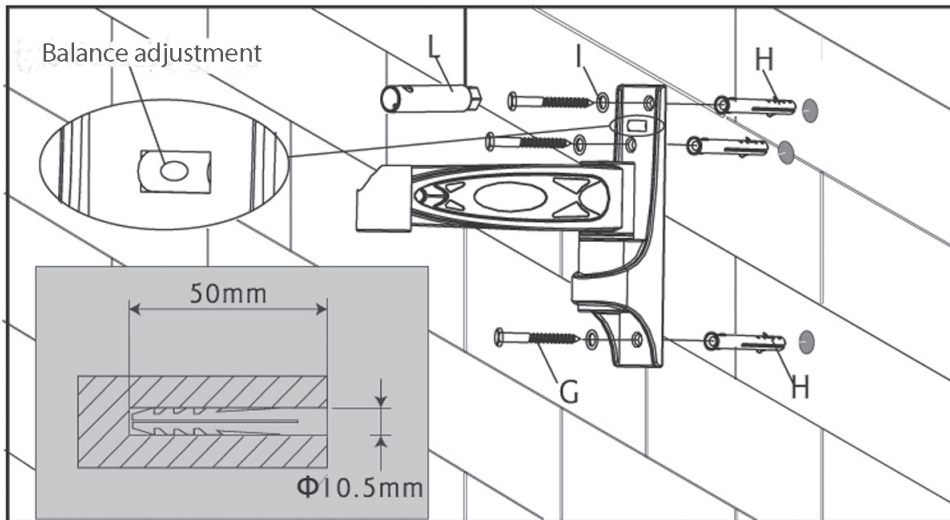

Fig. 3
4. Use the supplied box wrench (L), long bolts (G), and washers (I) to mount the wall plate on the wall.
5. Use the balance adjustment (shown in fig. 3) to level the wall plate, repositioning as necessary, then securely tighten the bolts.
## Concrete walls (Fig 3):
3. Insert a wall anchor (H) into each pre-drilled hole and lightly tap it with a hammer until the wall anchor is flush with the wall.
4. Use the supplied box-end wrench (L), long bolts (G), and washers (I) to mount the wall plate on the wall with the wall anchors.